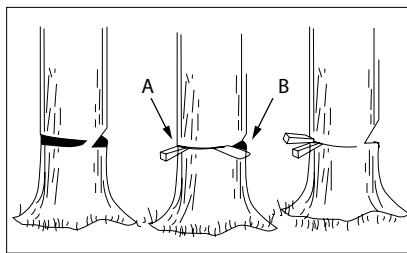

Fig. 16
Use wooden or plastic wedges (A) to prevent the bar or chain (B) from jamming in the cut. The wedges also control the felling (fig. 16).